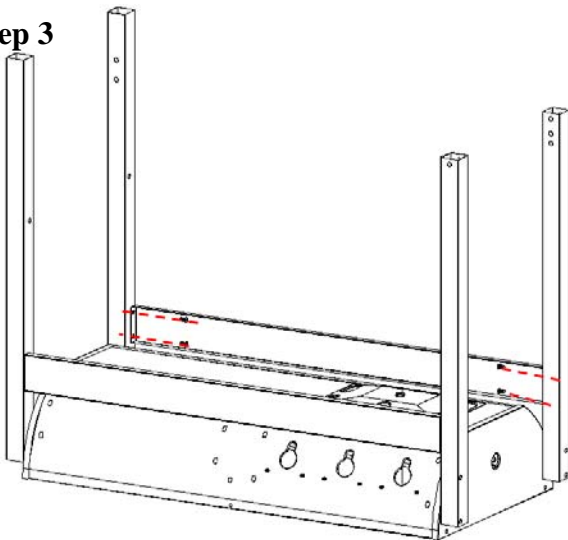

Fig. 3
*Locate:* (2) Cart Front/Rear Brackets, (8) M6x12 bolts
*Procedure:* Attach (2) Cart Front/Rear Brackets to four Legs using (8) M6x12 bolts as shown as Fig. 3.